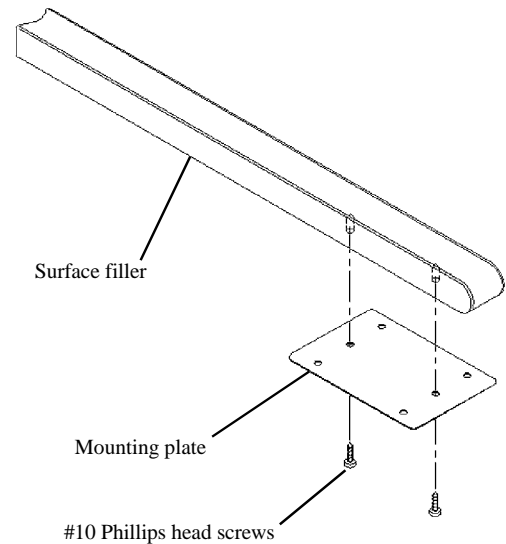

Figure 1
1. Fasten the **Mounting Plate** to the Surface Filler using two of the #10 Phillips head screws provided. See **Figure 1**.